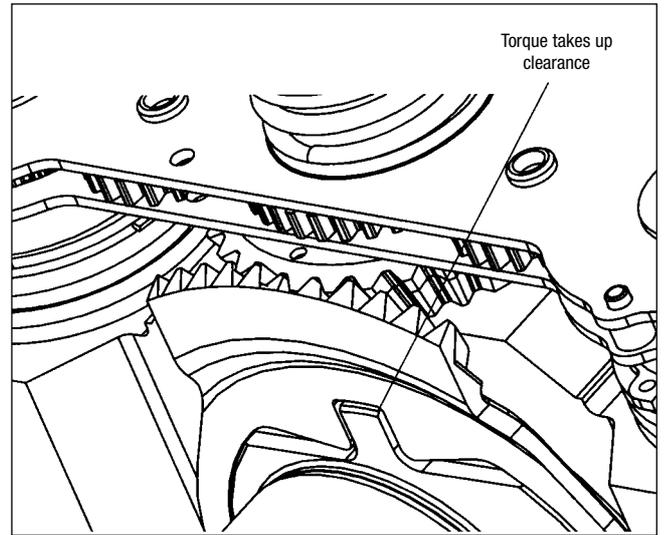

FIG. 7
- Eccentric shaft turns within the gear plate segment – taking up clearance between tongue and shoulders (Fig. 7).